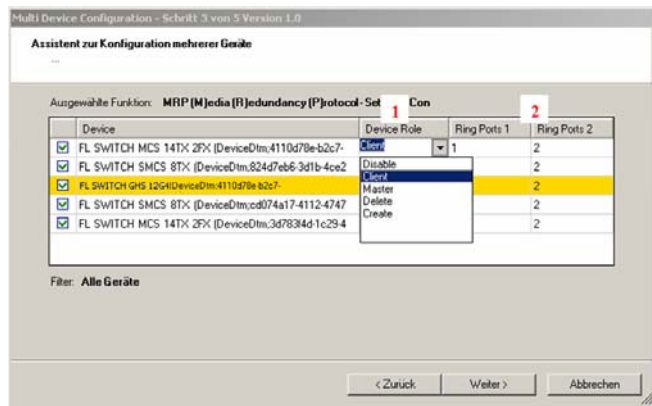

Figure 4-22 Specifying the MRP role
- In the table, you can specify whether the specific device is a “Master” or “Client” (see Figure 4-22/item 1).
- In the table, you can specify the ring ports for each device (see Figure 4-22/item 2).
- Step 2: Select the “Activate MRP Configuration” option (see Figure 4-22/item 2).